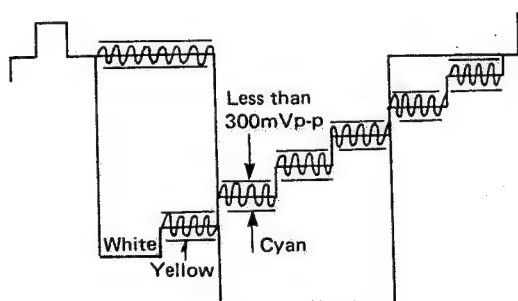

Figure 13
3. Adjust L1703 to set 3.58 MHz sub carrier at the minimum amplitude shown in figure 13.
4. Confirm that 3.58 MHz sub carrier portion of the cyan is less than 300mVp-p shown in figure 13.